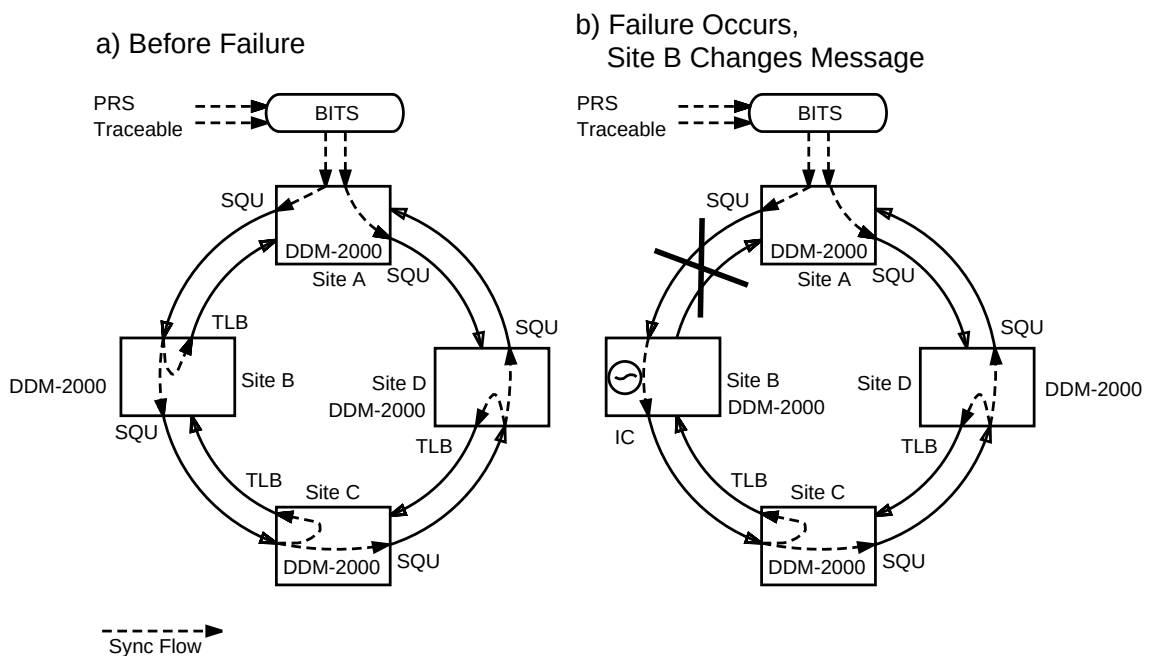

Figure 5-28. Synchronization Reconfiguration — Access Ring (Sheet 1 of 3)
In Figure 5-28(b), a fiber has been cut between sites A and B. Immediately, the DDM-2000 OC-3 Multiplexer at site B enters holdover and sends out the internal clock (IC) message to site C. The DDM-2000 OC-3 Multiplexer at site B cannot switch to line time from site C because it is receiving the TLB message on that interface.
In Figure 5-28(c), the DDM-2000 OC-3 Multiplexer at site C detects the incoming IC message and sends out the IC message to site D. The DDM-2000 OC-3 Multiplexer at site C cannot switch to line time from the other rotation because it is receiving the TLB message on that interface.